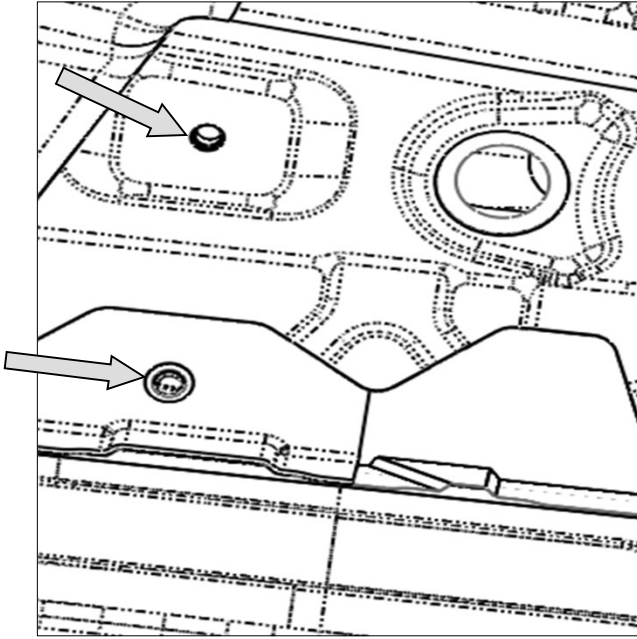

Figure 1
- Using a flat screwdriver, remove and discard six (6) OE plastic bolts from underneath the vehicle. See Figure 1, 2 & 3.